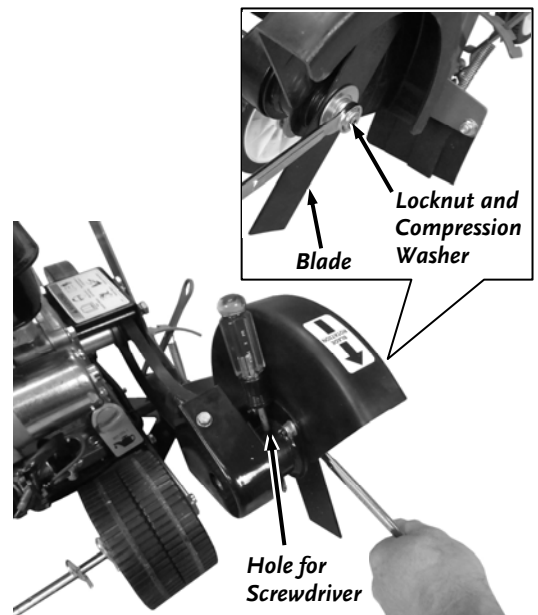

Figure 25
2. Insert a Philips Screwdriver into the hole in the Shaft to hold the Shaft from turning (**Figure 25**).